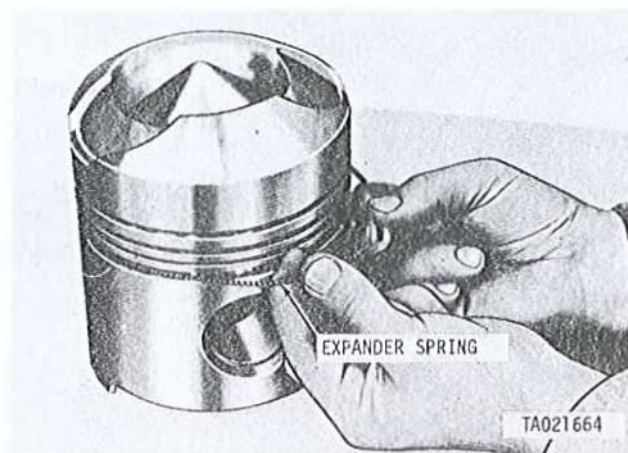

Figure 3-182. Removing or installing oil control piston ring expander spring.
b. Remove oil control piston ring expander spring (fig. 3-182), by separating at parting line as shown.